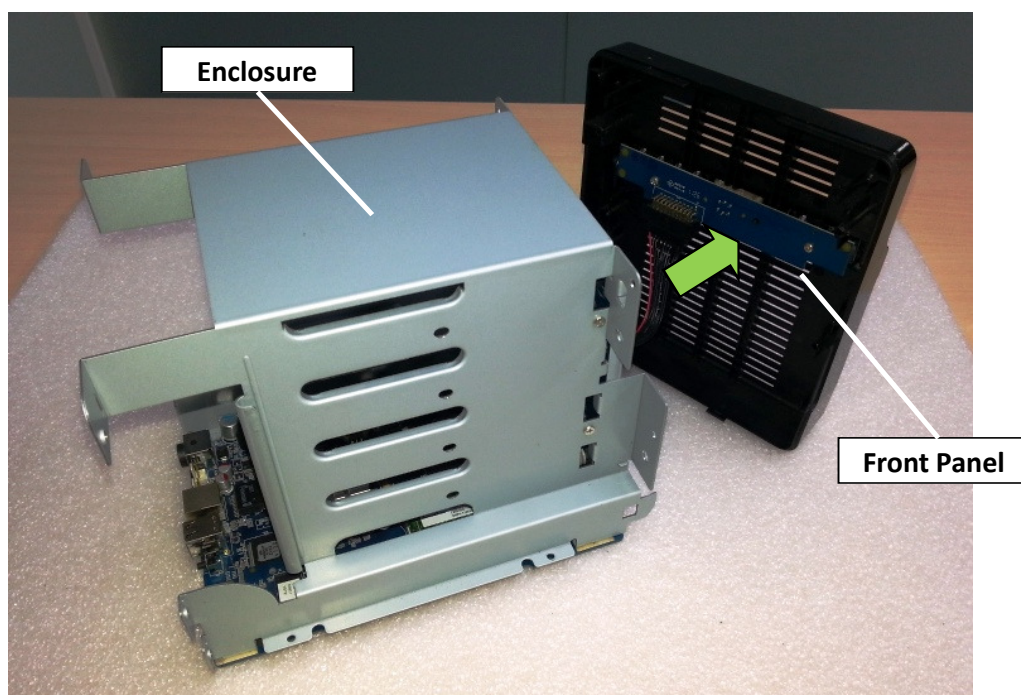

Fig. 61
3.1.13 Remove the front panel from the enclosure. (Fig. 61)